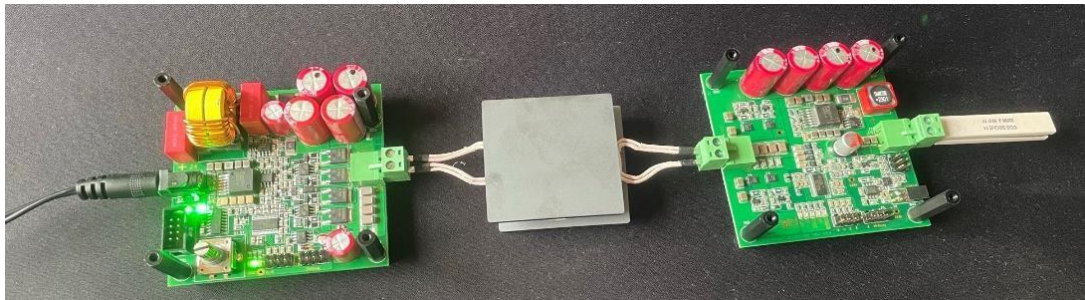

Figure 6: Transmitter (Tx) board and Receiver (Rx) board setup for flashing the software
- Connect the transmitter (Tx) board with power supply cable and connect the receiver (Rx) board with load as shown in the Figure 6 below.